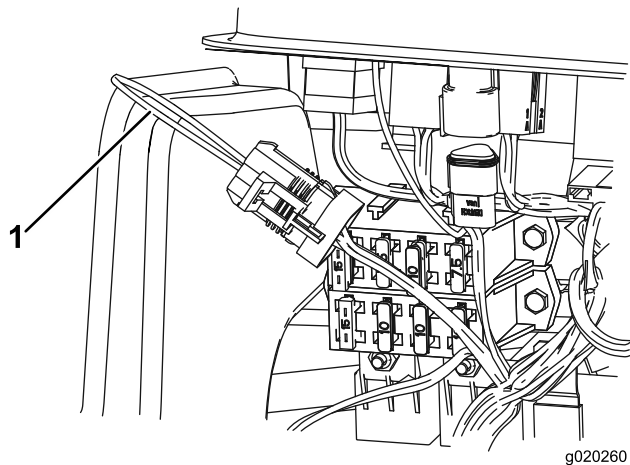

Figure 100
3. Locate the wire harness and loop-back connector (Figure 100).